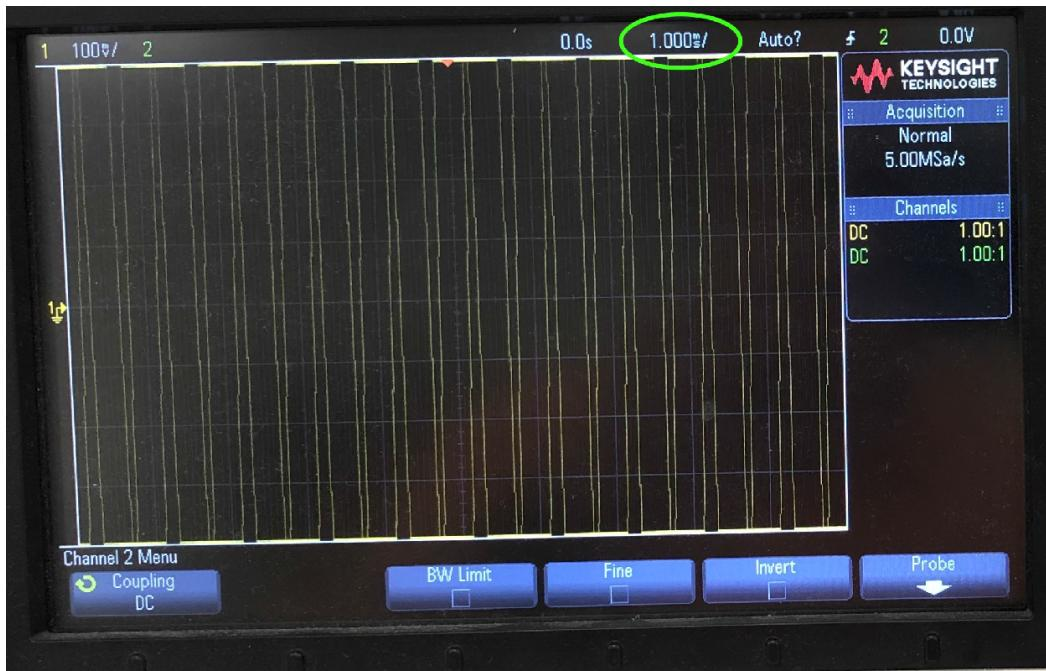

FIGURE 2-2. Unstabilized, Vertically Incorrect Sinusoid Display.
1. Turn on both the function generator (Figure 2-1a) and oscilloscope (Figure 2-2).
turn it counterclockwise (CCW) until the sweep rate annunciator (circled) indicates “1.000 ms/”. The display should like similar to Figure 2-2, but be very jittery.